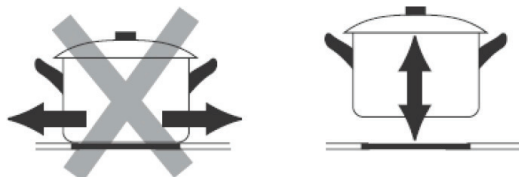

Fig. 5
- Coarse bottoms of cookware could scratch the ceramic glass plate. Check the cookware bottom regularly. Cookware with coarse bottom can cause scratches of the hob. Always lift these objects up when you have to move them on the cooking surface (Fig. 5). To protect the hob from being scratched.